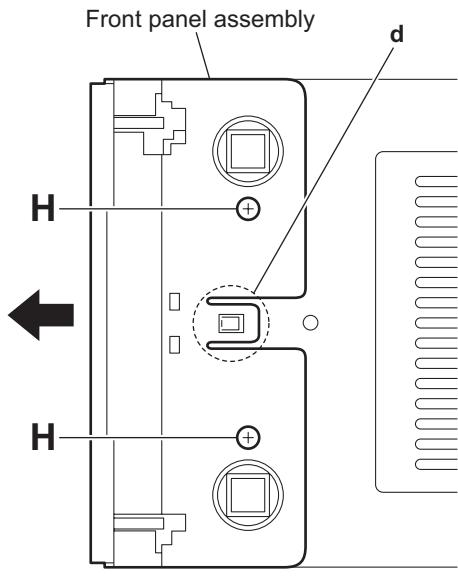

Fig.7
(See Figs.7 to 9)
- (1) From the bottom side of the main body, remove the two screws **H** attaching the front panel assembly. (See Fig.7.)
- (5) From the bottom and both sides of the main body, release the joints (**d**, **e**) of the front panel assembly and remove the front panel assembly in the direction of the arrow. (See Figs.7 to 9.)